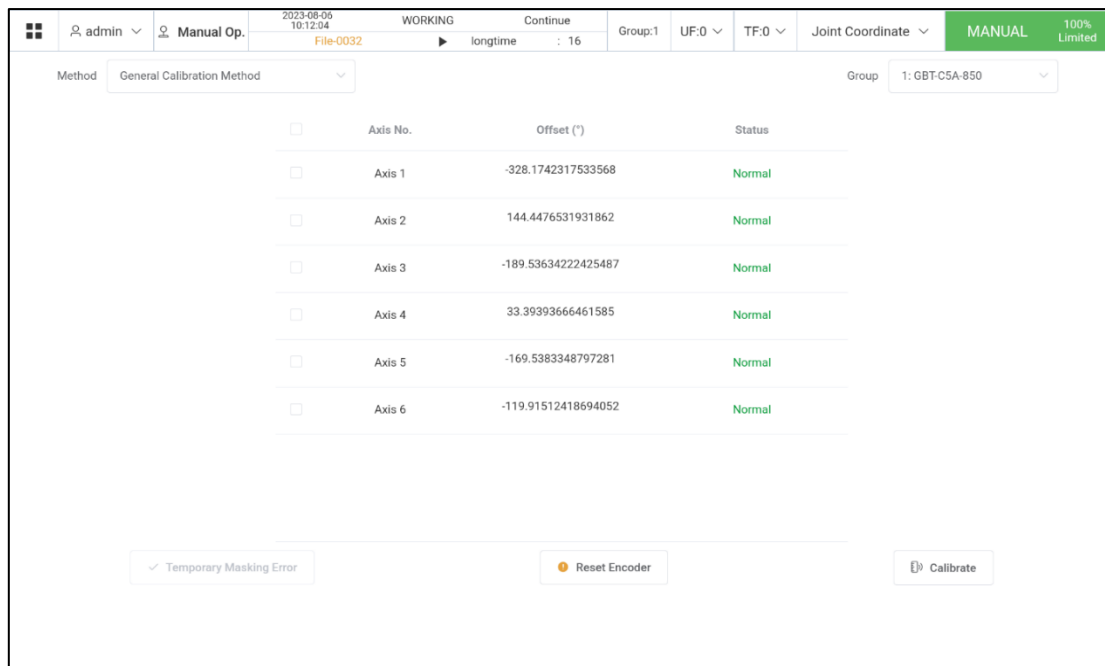

Fig. 2.42 Zero-point Status Screen
2. Successively click "Menu Button" → "System" → "Basic Setting" → "Zero-point Setting" to enter the screen as shown in Fig. 2.42.
- Top Bar:** Similar to Fig. 2.42, but the status is 'WORKING' and the 'Continue' button is present.